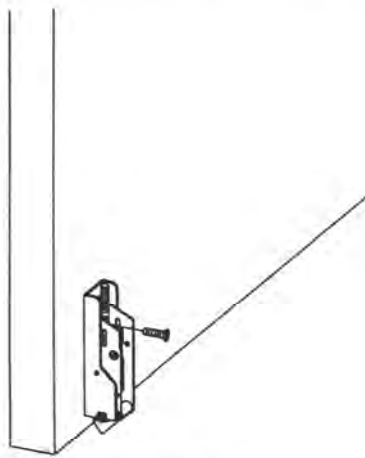

Figure 3
1. Mount bottom latch assembly into mounting bracket. (See Figure 3.)